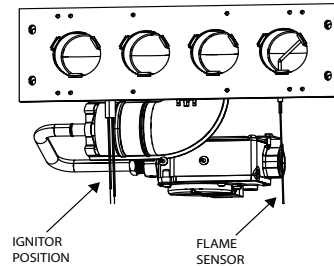

Fig. 63 – Igniter Position - Back View
- a. Using a 1/4-in. driver, remove the screw securing the flame sensor to the burner assembly (see Fig. 63). Retain factory-provided 1/4-in. screws.
7. To replace flame sensor and bracket assembly, reverse items 6a through 6d.
8. Reconnect flame sensor wire to the wire harness, dressing the sensor wires to ensure there is no tension on the flame sensor itself (see Fig. 63).
The igniter does **NOT** require annual inspection. Check igniter resistance before removal (see Fig. 63).
- a. Using a 1/4-in. driver, remove the two screws securing the igniter mounting bracket to the burner assembly (see Fig. 63). Retain 1/4-in. length screws.
6. To replace igniter and bracket assembly, reverse items 5a through 5d.
7. Reconnect igniter harness to the igniter, dressing the igniter wires to ensure there is no tension on the igniter itself (see Fig. 63).